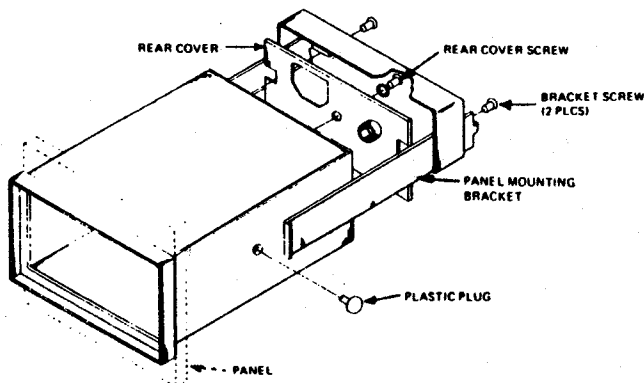

FIGURE 2-4. PANEL MOUNTING
The remaining switches, marked 5, 4, 3, 2, 1, set the decimal point. To place the decimal point in the desired position (see Figure 2-4), slide the appropriate switch to the up position (ON) with the remaining switches in the down position (OFF). If the instrument has a rocker type switch assembly, press the upper portion of the switch to illuminate the appropriate decimal point. The remaining switches should be off (lower portion pressed). If no decimal point is desired, switch #1 must be set ON for Models 41X and switch #2 set ON for Models 40X (switch #1 not operable on Models 40X). The remaining decimal point select switches must be set OFF.
Panel mounting hardware is supplied standard with the instrument. Install as shown in Figure 2-4. The instrument bezel butts against the front of the mounting panel; the mounting bracket fits over the instrument rear panel. The bracket screws force it against the rear of the mounting panel, locking the instrument in place. Panel cutout dimensions are 68mm x 138mm (2.68" x 5.44").